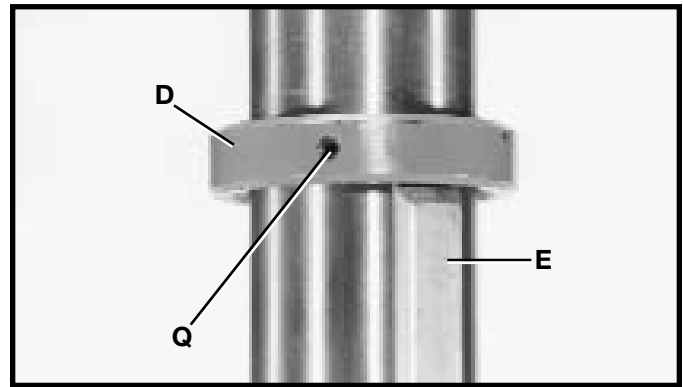

Fig. 7
8. Reassemble collar (D) Fig. 7, which was removed in **STEP 1**, to column. **IMPORTANT:** Bottom of collar (D) **MUST NOT** be pushed all the way down onto top of raising rack (E). **MAKE SURE** top of raising rack (E) is under bottom of collar (D) and that there is enough clearance to allow rack (E) to rotate around the column. Then tighten set screw (Q) being careful not to overtighten.